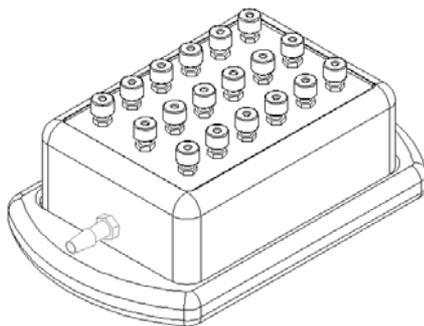

Fig. 1. Aurum vacuum manifold.
- Bio-Rad Aurum vacuum manifold (Figure 1) with vacuum regulator and column adaptor plate (catalog #732-6470), or other vacuum manifold with luer fittings